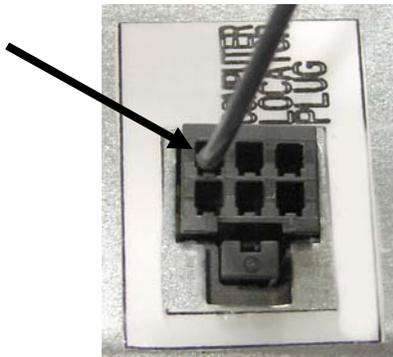

Figure 2: Locator position connector (Pin 1)
2. Attach the locator harness to connector CC locator on the controller. The locator needs to be in pin #1 for each controller. See Figure 2.